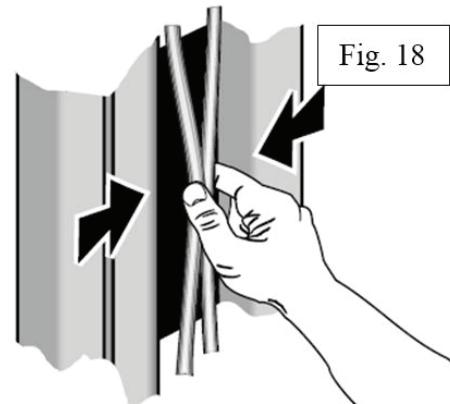

Fig. 18
- Raise the carriages to check the equalizer cable tension by grasping the adjacent cables between the thumb and the forefinger so that you can just pull the cables together (ref. fig. 18);